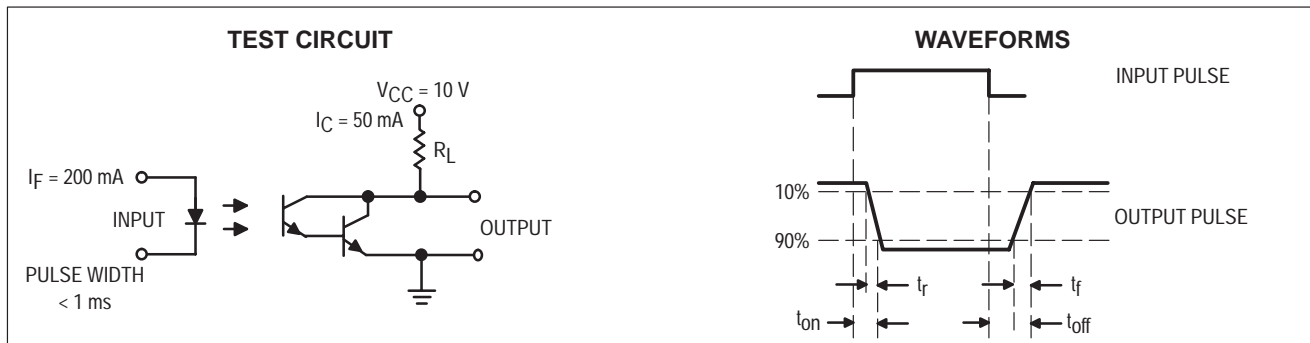

Figure 11. Switching Time Test Circuit and Waveforms
6. For test circuit setup and waveforms, refer to Figure 11.